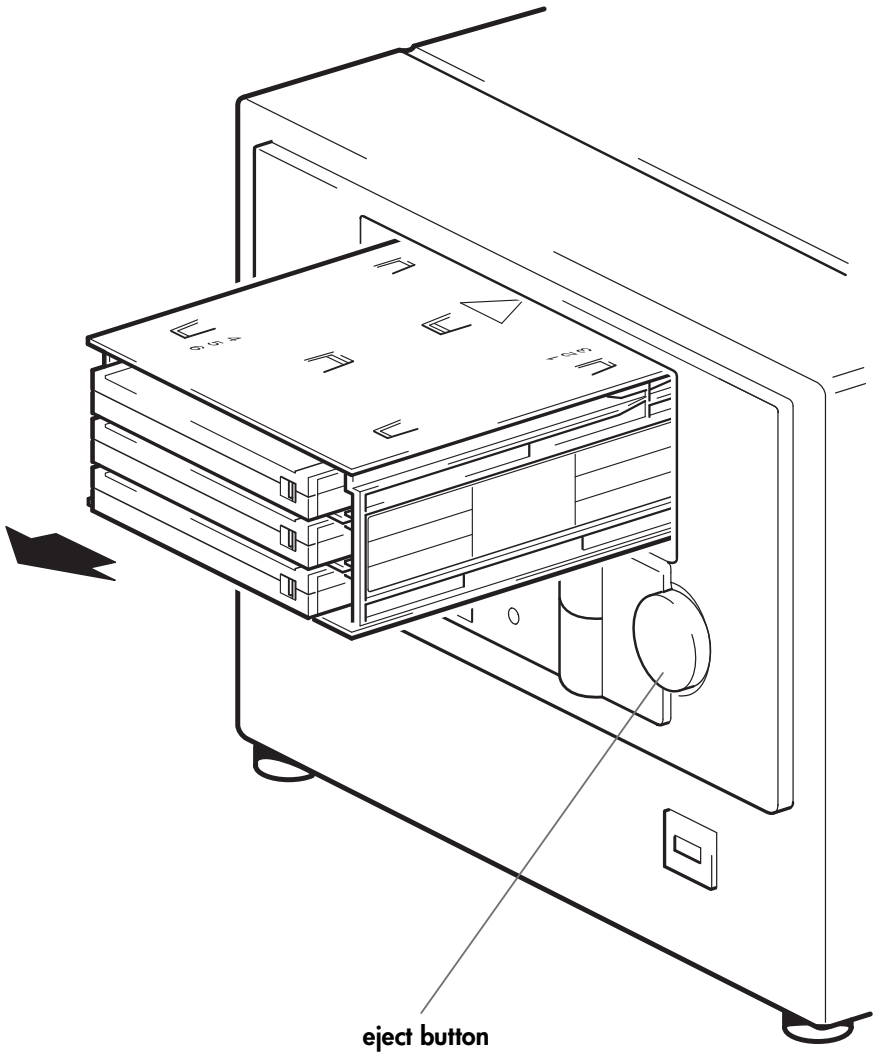

Figure 11: unloading the autoloader
- 1 Press the Eject button on the front panel. (See figure 11.)